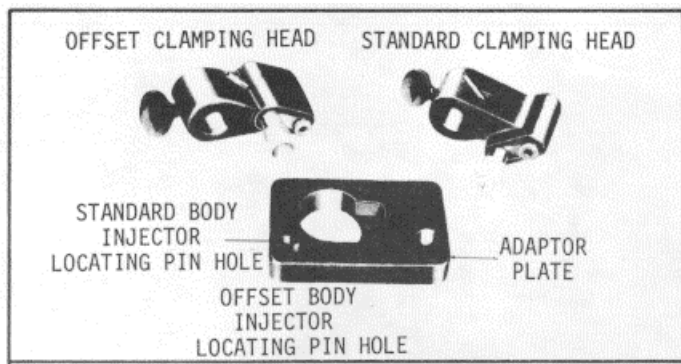
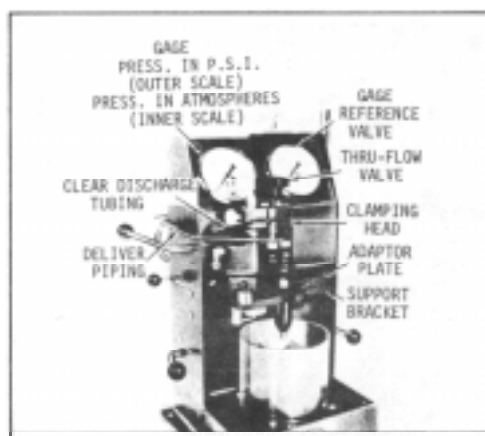

Fig. 11 Injector Tester J 23010 Clamping Heads
Fig. 12 Injector Installed in Tester J 23010 with Clamping Head
- (1) Select the proper clamping head (Fig. 11). Position it on the clamping post and tighten the thumbscrew into the lower detent position (Fig. 12).
- (2) Connect the test oil delivery piping into the clamping head.
- (3) Connect the test oil clear discharge tubing onto the pipe on the clamping head.
- (4) Locate the adaptor plate on top of the support bracket by positioning the 3/8" diameter hole at the far right of the adaptor plate onto the 3/8" diameter dowel pin. This allows the adaptor plate to swing out for mounting the fuel injector.
- (5) Mount the injector through the large hole and insert the injector pin in the proper locating pin hole (Fig. 11).
- (6) Swing the mounted injector and adaptor plate inward until they contact the stop pin at the rear of the support bracket.